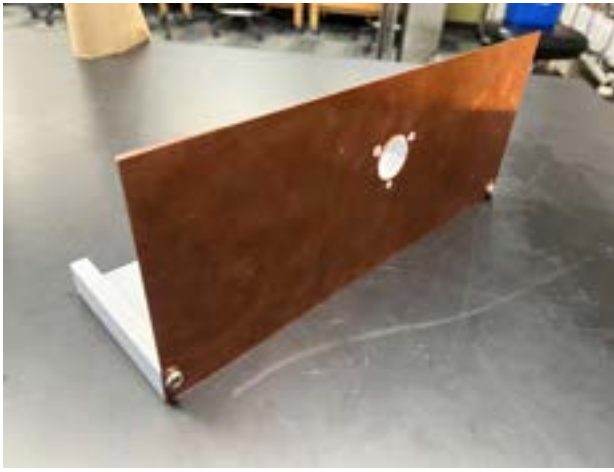

Figure 5: Motor stand and Face connected
1. Using two M5 screws, attach copper face to copper stand. One screw on each side staggered, as illustrated in figure 5.